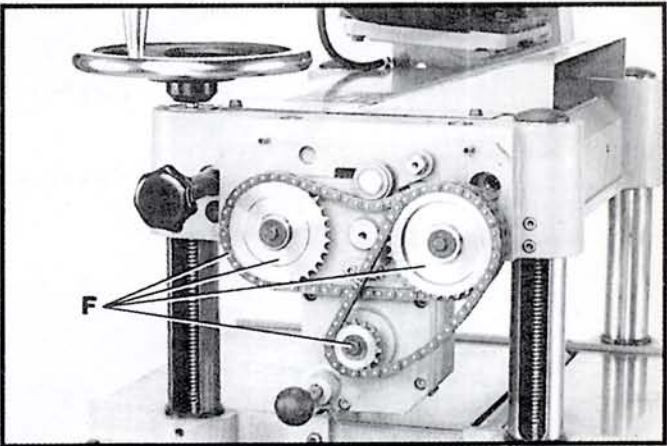

Fig. 52
Periodically remove screw (D) Fig.51, and side cover (E) . Thoroughly clean chains and sprockets (F) Fig.52, and lubricate using a light machine oil . Replace side cover .